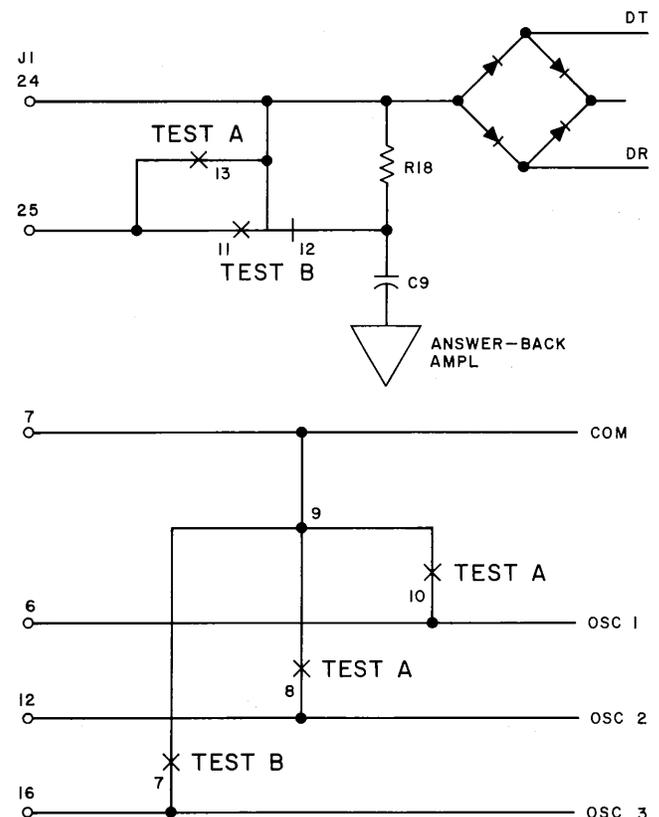

Fig. 9—Test Key Circuits
**3.08 Test Key Circuits:** Refer to Fig. 9 for the simplified schematic of the test key circuits. The remote testing circuit provides facilities for testing the data set on the customer premises. When operated, the test circuits cause test signals to be transmitted to the data test center for analysis. The test circuits operate as follows:
- (a) Test A switch (TA) consists of three make-type contacts. When operated, it causes the following conditions to be established: